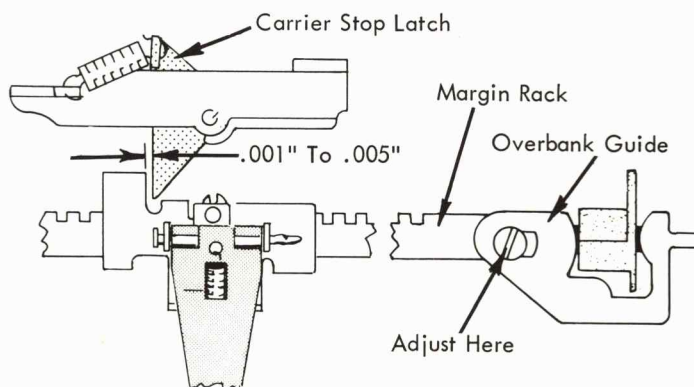

FIGURE 147.7 Margin Rack Overbank Guide Adjustment
4. Overbank Adjustment - With the carrier resting at the left margin stop, adjust the margin rack overbank guide (Fig. 147.7) left or right on the margin rack to obtain a clearance of .001" to .005" between the stop latch on the carrier and the left-hand margin stop. On machines equipped with a floating stop latch, the floating action of the latch must be removed, by pulling the latch to the right with a spring hook, before this clearance can be observed.